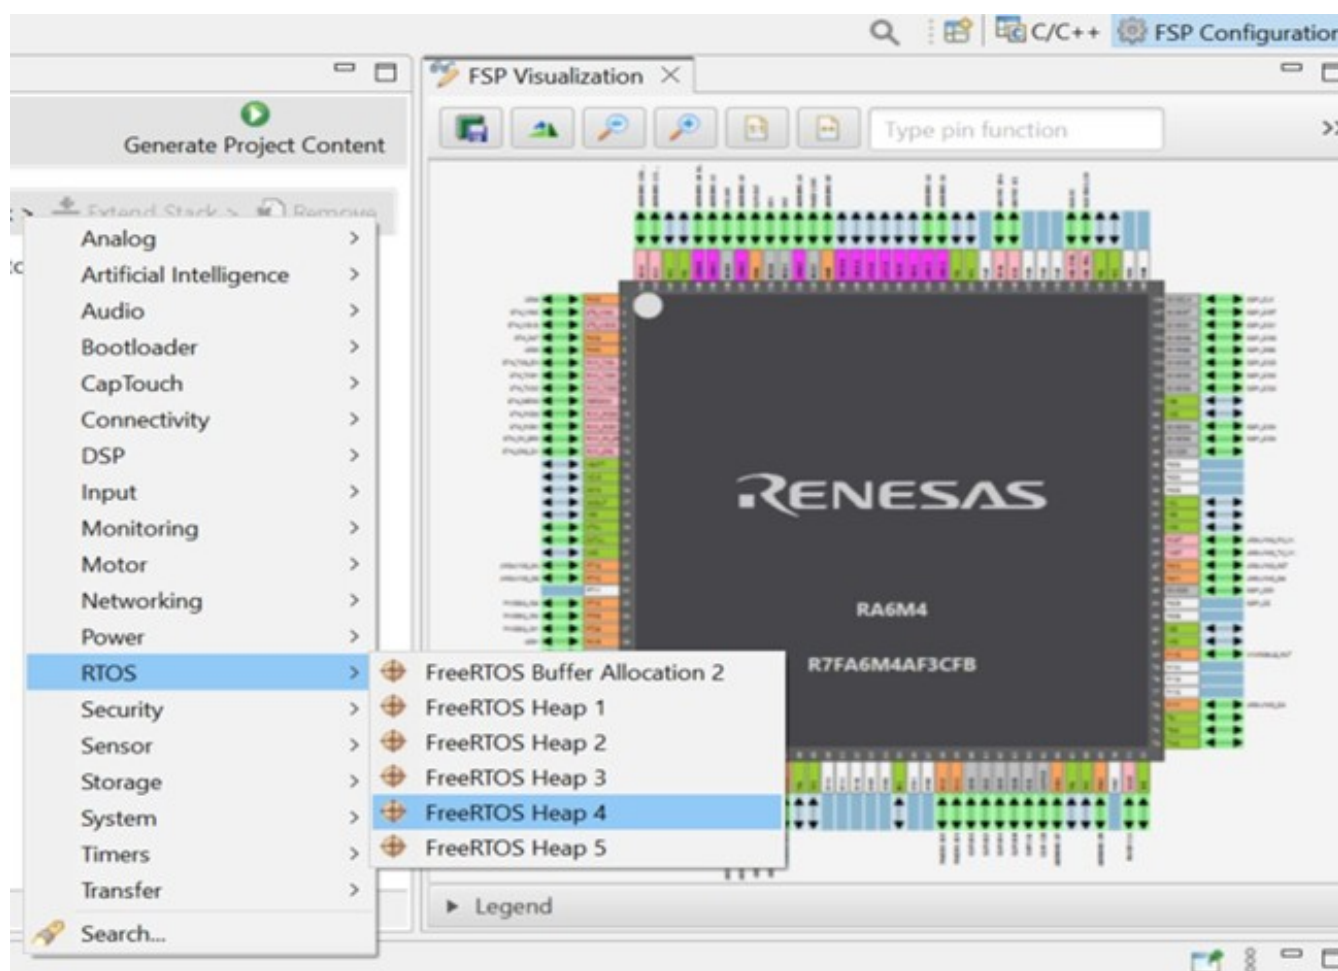

Figure 9. RTOS Selection
8. Select **HAL/Common** on the Threads list and click on *New Stack*. From the menu, select **RTOS > FreeRTOS Heap 4** (see Figure 9).